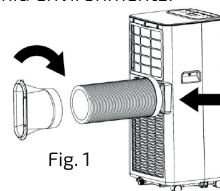

Fig. 1
- Install the heat pipe assembly (as shown in Fig.1): screw the heat pipe assembly (exhaust fitting end) into the exhaust port on the rear panel.